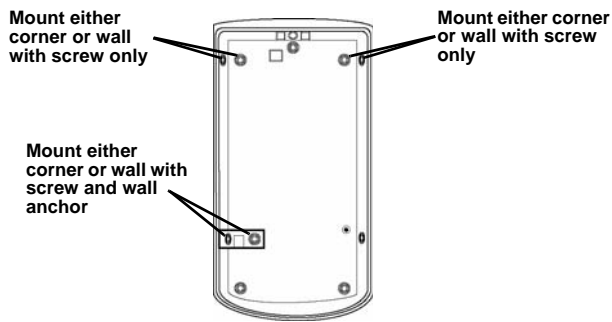

Figure 3 EN1240-60 mounting back plate
a. If using the wall tamper function for increased security, mount the housing back plate per Figure 3, ensuring the tamper switch is depressed.